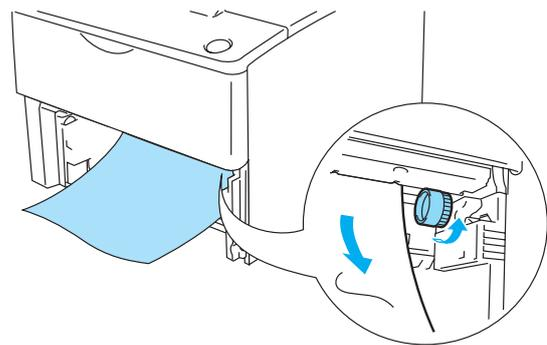

Fig.6-4
- (2) Open the process cover of the printer.
- (3) Use both hands to slowly pull out the jammed paper.
*If you cannot pull out a small piece of jammed paper, you can remove it by turning the dial as shown in Fig.6-4.*